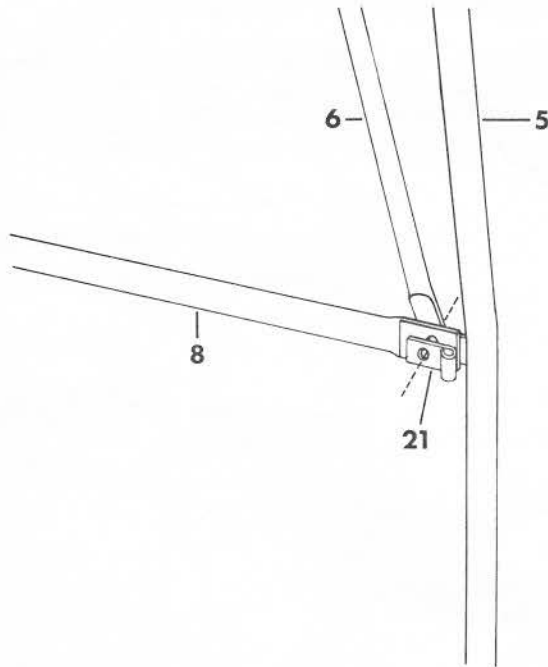

FIGURE 18-B
B. SEE FIGURE 18-B: Adjust middle door hinge of RIGHT HAND DOOR so it may be placed over bolt previously installed, add another NUT (20), and tighten.